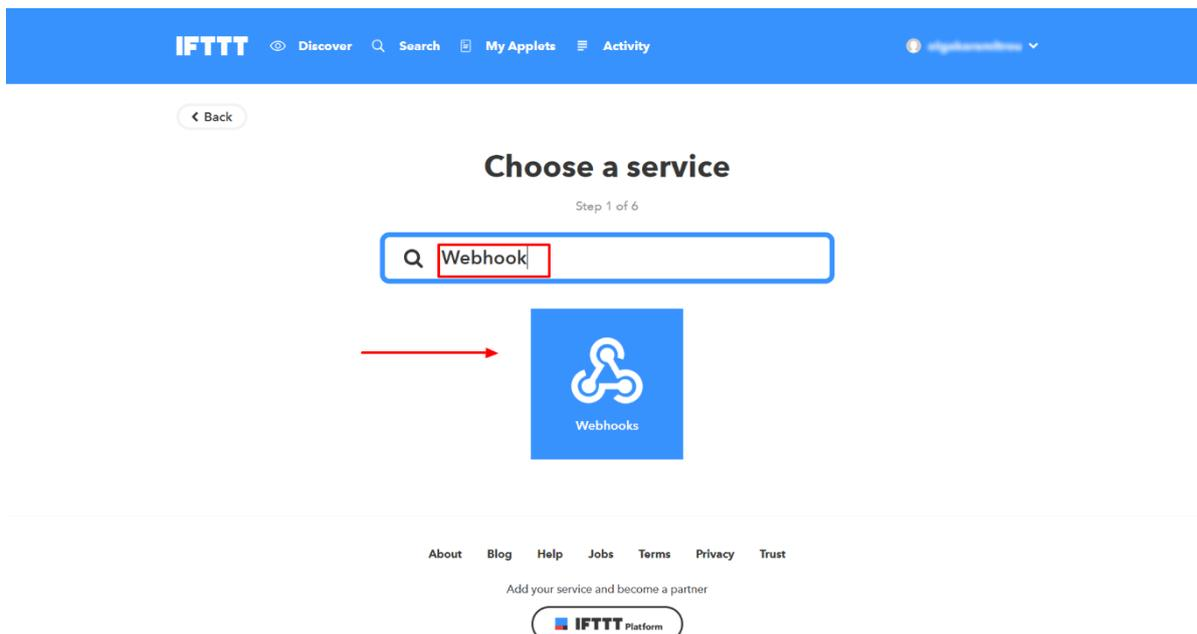

Figure 76: Make an IFTTT Applet Step 1
4. Type in "Webhooks" in the search field and choose the Webhooks service (Figure 76).